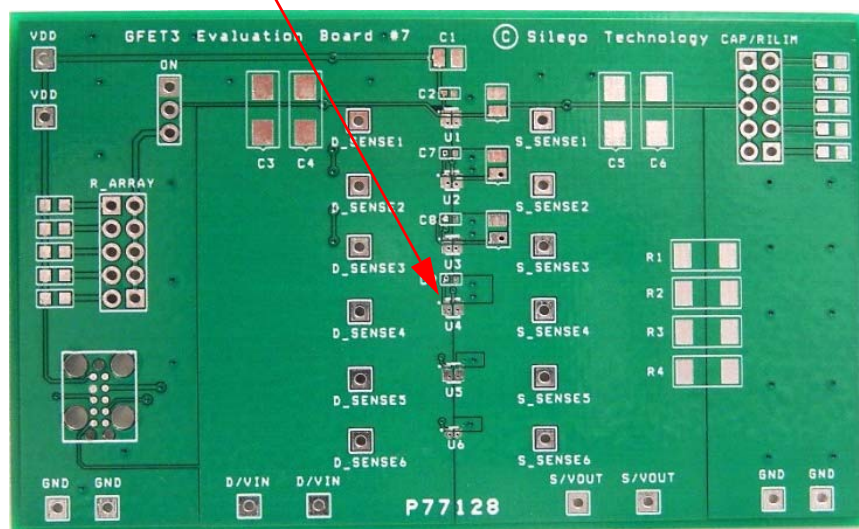

Figure 1. SLG5NT1477V Evaluation Board
2. Since the D and S pins dissipate most of the heat generated during high-load current operation, it is highly recommended to make power traces as short, direct, and wide as possible. A good practice is to make power traces with absolute minimum widths of 15 mils (0.381 mm) per Ampere. A representative layout, shown in Figure 1, illustrates proper techniques for heat to transfer as efficiently as possible out of the device;
A GFET3 Evaluation Board for SLG5NT1477V is designed according to the statements above and is illustrated on Figure 1. Please note that evaluation board has D_Sense and S_Sense pads. They cannot carry high currents and dedicated only for $R_{DS(ON)}$ evaluation.